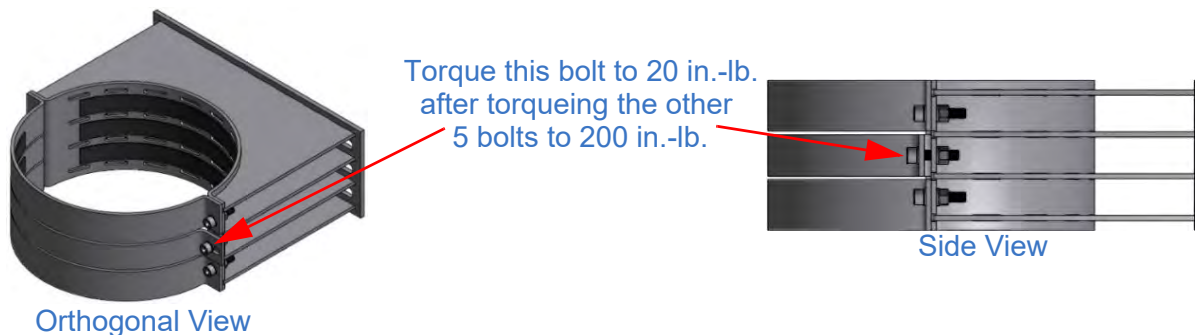

Figure 5-13 External Support Bracket P/N: 4894901 Installation
- P/N: 4894901: Torque the first five $\frac{3}{8}$ -16 bolts to 200 in.-lb. and final $\frac{3}{8}$ -16 bolt to 20 in.-lb. (Figure 5-13). Only torque the final $\frac{3}{8}$ -16 bolt after torqueing the first five bolts.